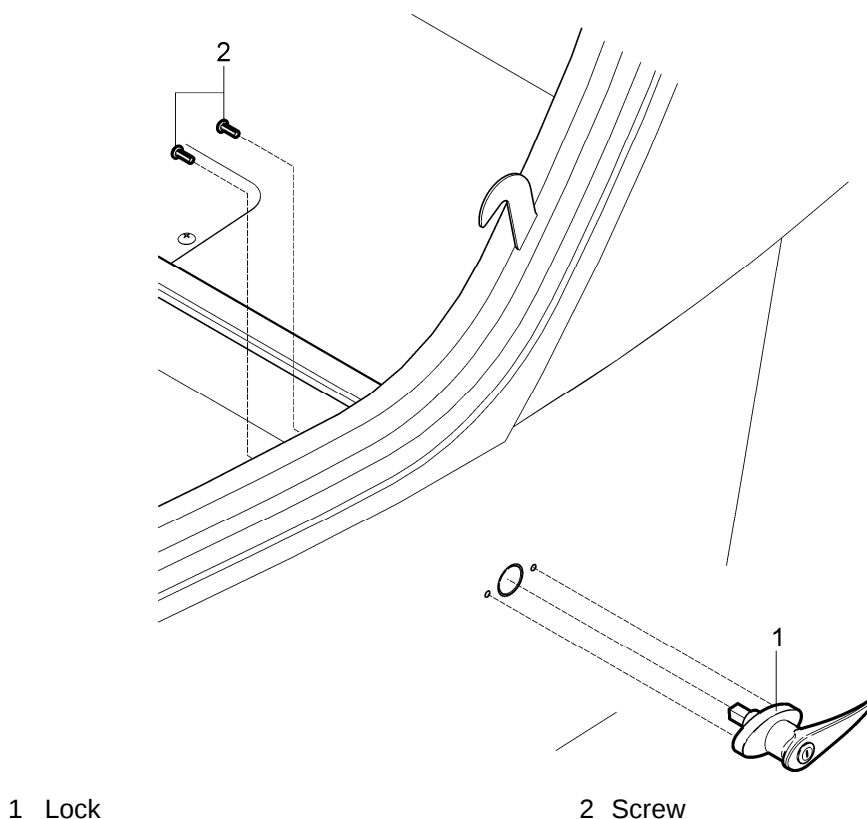

Fig 3-6: Canopy lock removal / installation
- (a) Unscrew the screw (2, Fig. 3-6) attaching the lock (1) to the fuselage skin.
(a) Put the lock (1, Fig. 3-6) in to the hole in the fuselage skin.